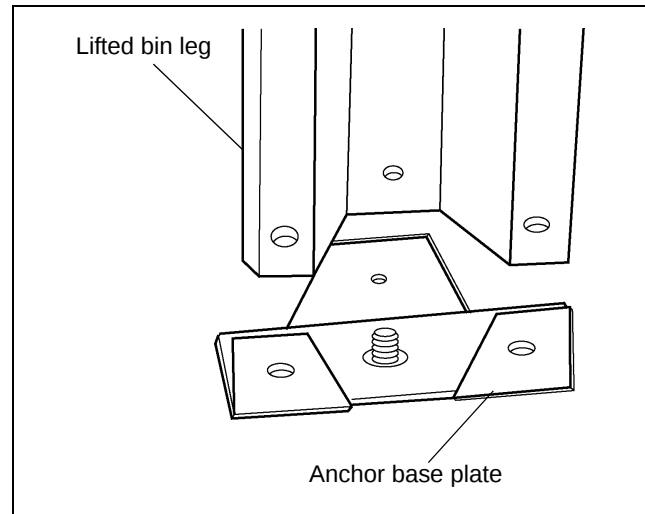

Figure 4E Lift Bin about 4"
3. Lift bin with jack about 4". This should lift two (2) bin legs. (See Figure 4E.)